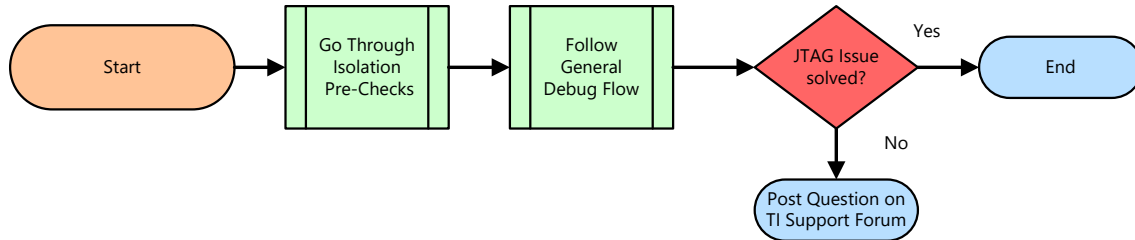
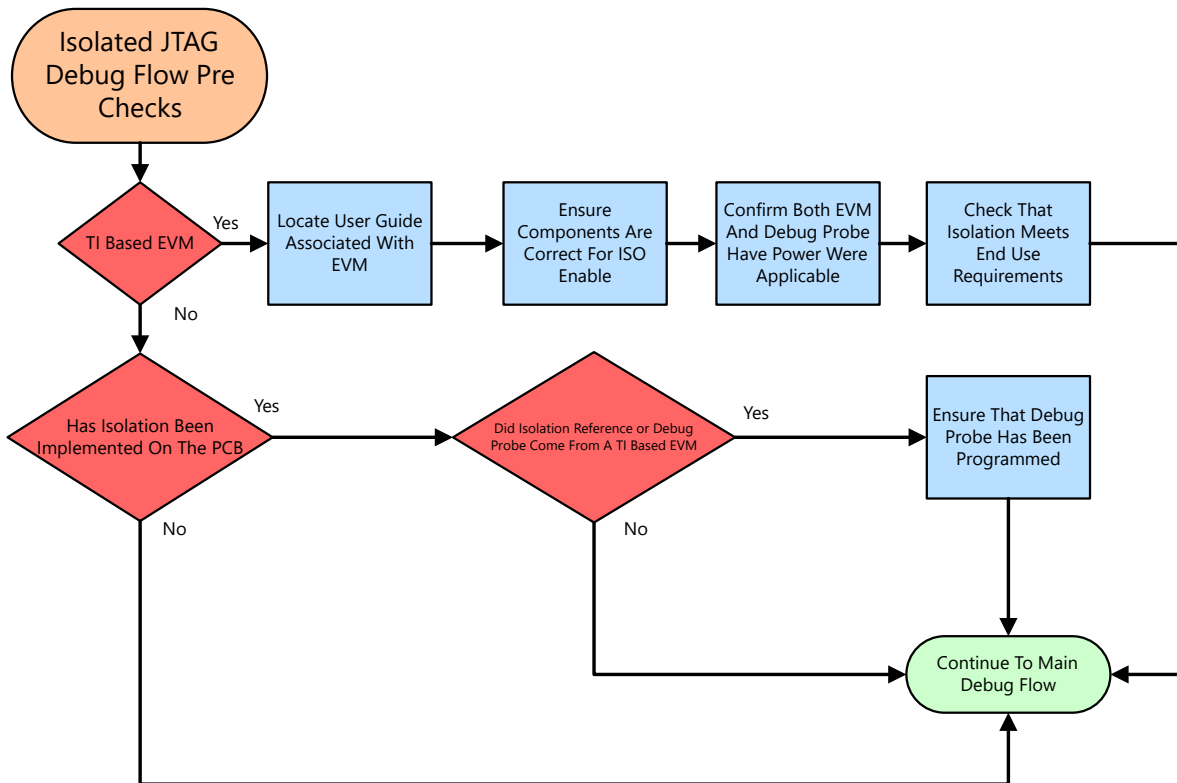
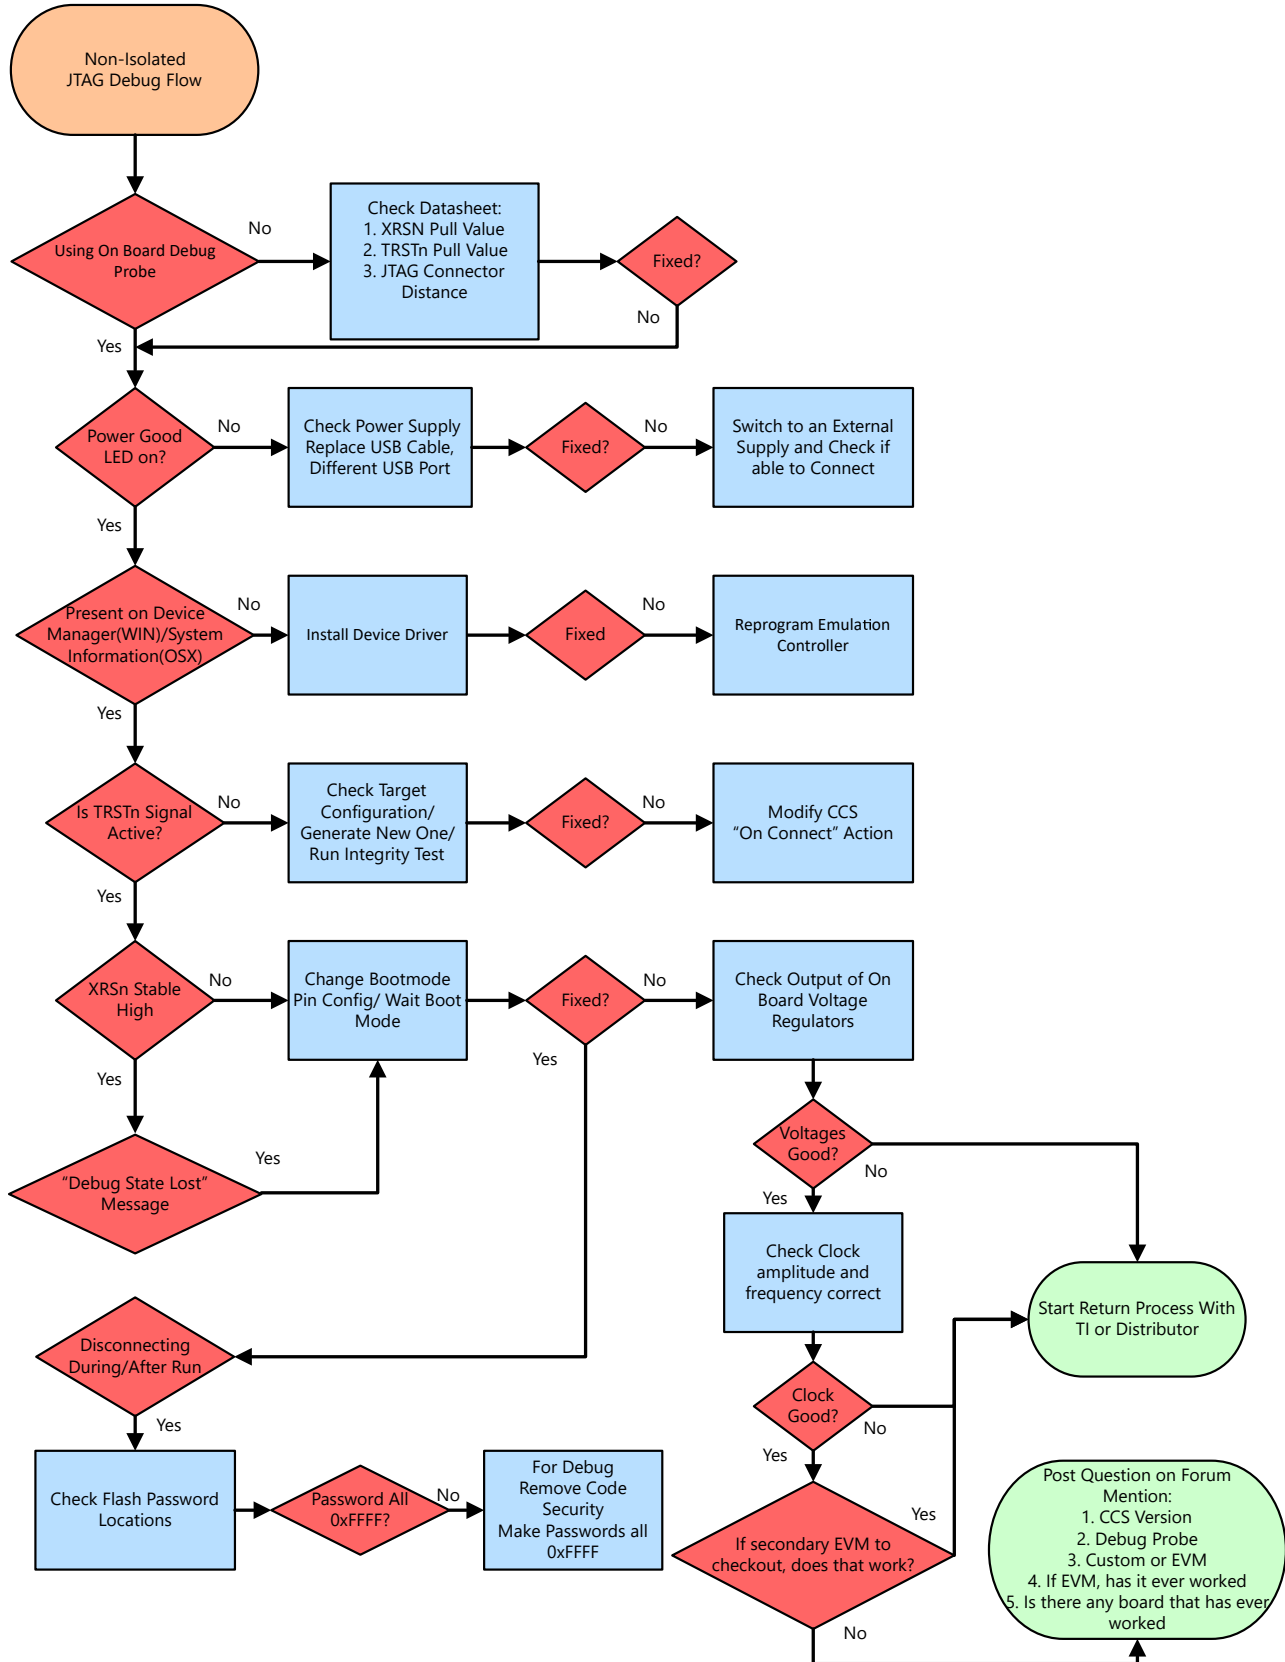

Figure 4-1. Overall Debug Flow
Figure 4-2. JTAG Isolation Pre-Checks
Figure 4-3. JTAG Debug Flow
1. Review the steps in Figure 4-1 and go through the High Voltage Isolation Flow first. This is important even if isolation is not a main concern, since it can have an impact on the emulation aspect of the PCB.
Many C2000 applications are high power in nature. Because of this, it is desirable to isolate the power plane of the target board from the host computer while debugging. Many TI manufactured boards have isolated emulation, or have on-board options to enable it. The flow chart shown in Figure 4-2 is included to help identify whether isolated JTAG is present, and if so, troubleshoot common issues in these systems. There are also stand-alone debug probes that provide isolation as well; this flow does not pertain to them.
Beginning with the Overall Debug Flow (Figure 4-1), decide if the High Voltage Isolation Check Flow (Figure 4-2) is needed or not. Once complete, go through the Main JTAG Debug Flow (Figure 4-3) step by step.